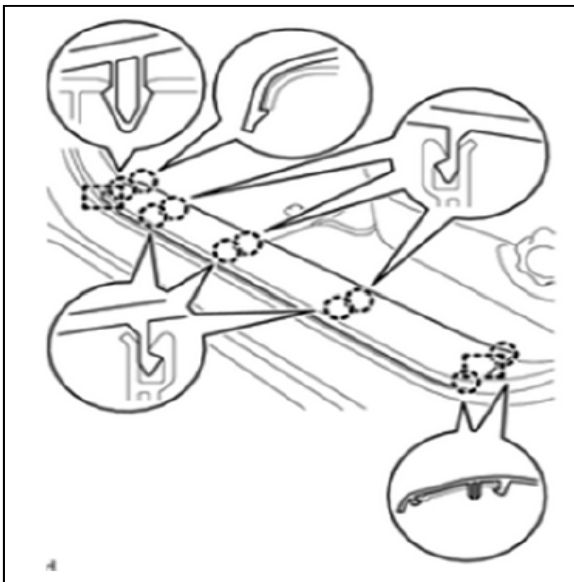

Figure 6
6. Disengage the 10 claws and 2 guides to remove the front door scuff plate LH. See Figure 6.